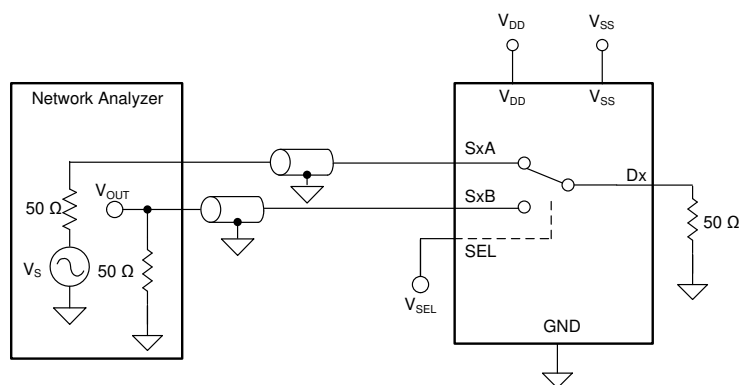

FIG 7-8. Intra-Channel Crosstalk Measurement Setup
1. Intra-channel crosstalk: the voltage at the source pin (Sx) of an off-switch input, when a 1-VRMS signal is applied at the source pin of an on-switch input in the same channel, as shown in FIG 7-8.